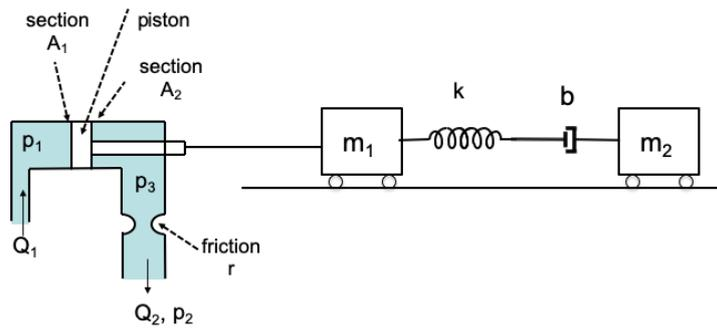

Figure 1: System of Exercise 4.
4. Consider the hydro-mechanical system shown in Fig. 1, where the pressures  $p_1$  and  $p_2$  are the external inputs. On the right-hand side pipe the fluid of flow  $Q_2$  is subject to a friction which can be expressed as  $p_3 - p_2 = rQ_2^2$  ( $p_3$  is the pressure in the pipe before the restriction). The piston has external section  $A_1$  and internal section  $A_2$ . The two carts of mass  $m_1$  and  $m_2$  have no friction. The parameters  $k$  and  $b$  are a spring constant and a friction constant in the damper.